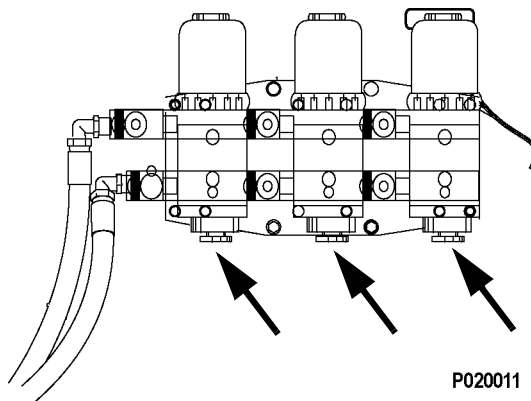

FIGURE 40-6. STAGE 1 FUEL FILTERS & WATER SEPERATORS
11.	<p>FUEL FILTERS (Water Separators) - Drain water from the bottom drain valve on each Stage 1 fuel separator. See Figure 40-6.</p>